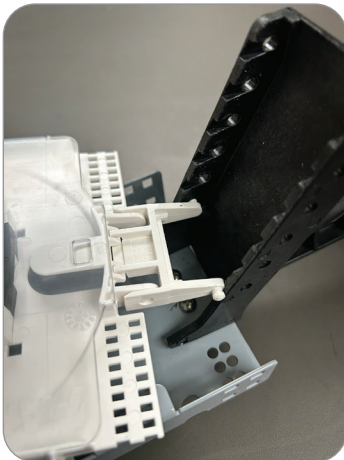

Figure 7
4. Install into FOSC B closure in positions 2 to 5 only. (Figures 7, 8 and 9)